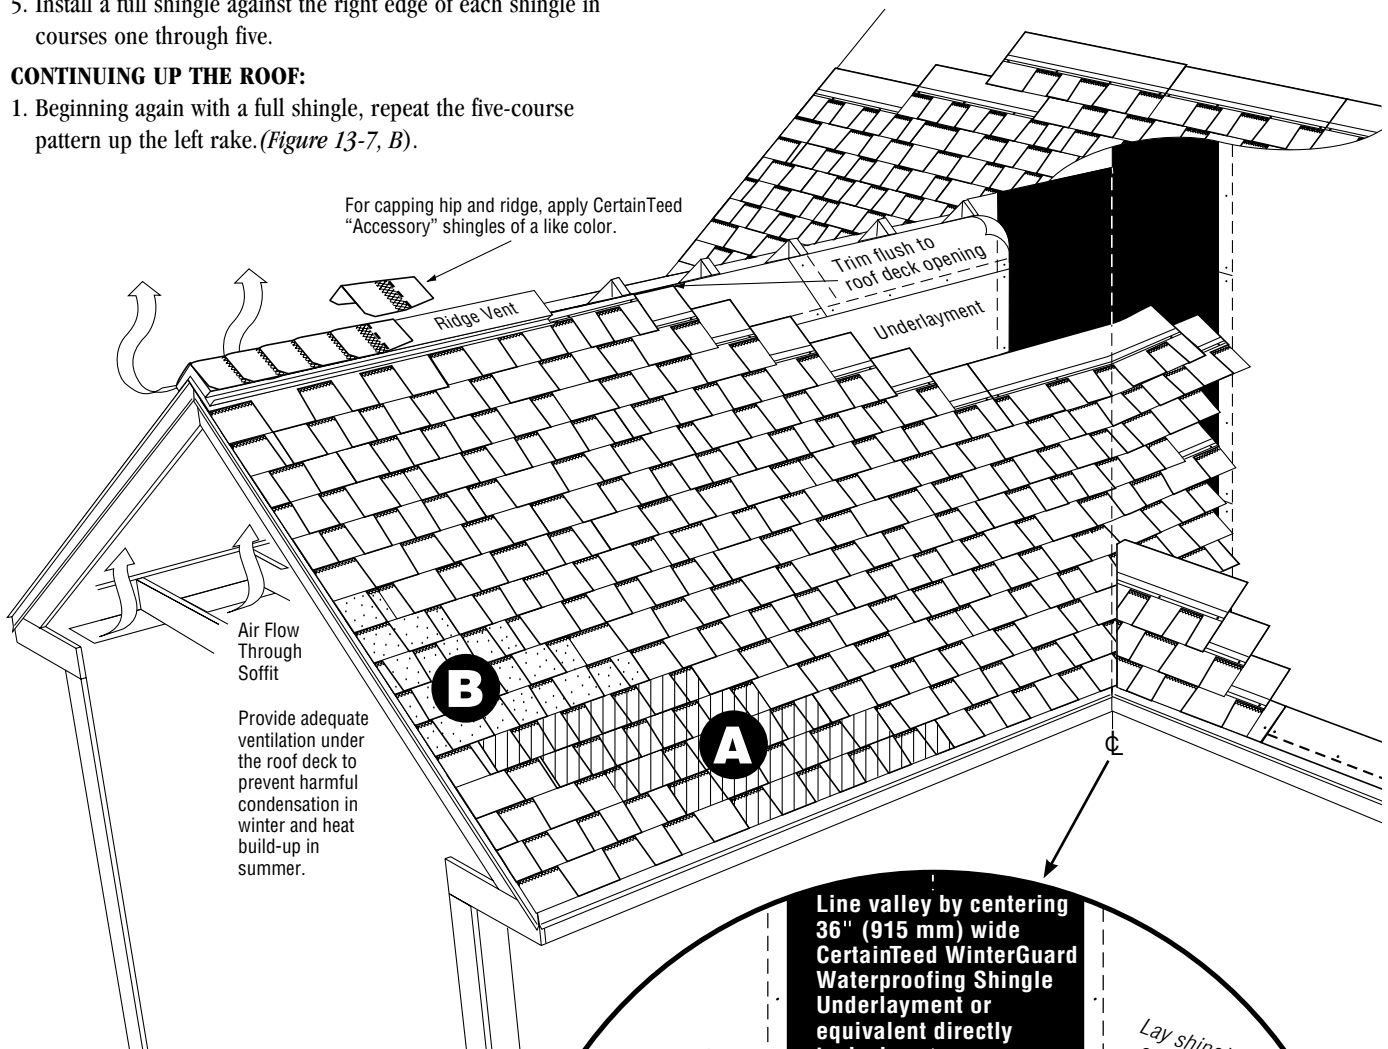

Figure 13-7: "Five-Course Diagonal Method" installation schematic.
1ST COURSE: Apply a full shingle at the lower left corner of the roof. Make the lower edge and left edge lie flush with the edges of the starter course (Figure 13-7).
1. Beginning again with a full shingle, repeat the five-course pattern up the left rake. (Figure 13-7, B).
2. Fill-in courses across the roof in a stepped diagonal fashion using full shingles. (Figure 13-7, A). Do **not** run courses straight across.